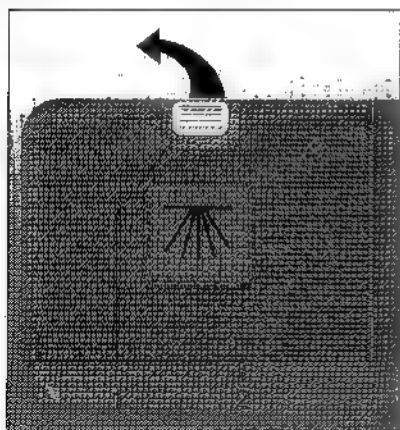

Fig. 10
- ☐ Press the lever forward (Fig. 10/1). The lid springs open.
- ☐ Close the lid of the dispenser until it clicks shut. In case of heavily soiled dishes, it is possible to add extra detergent to the tray on top of the dispenser lid (Fig. 10/2). Fill until level. The extra detergent will be added during the prewash.